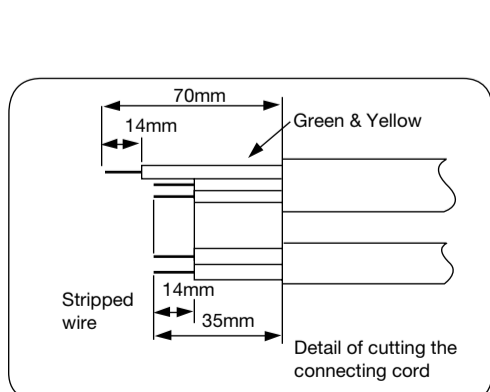

Fig. 3-22
- (1) Cut off the connecting cords and strip the insulation of wire. (Fig. 3-22)